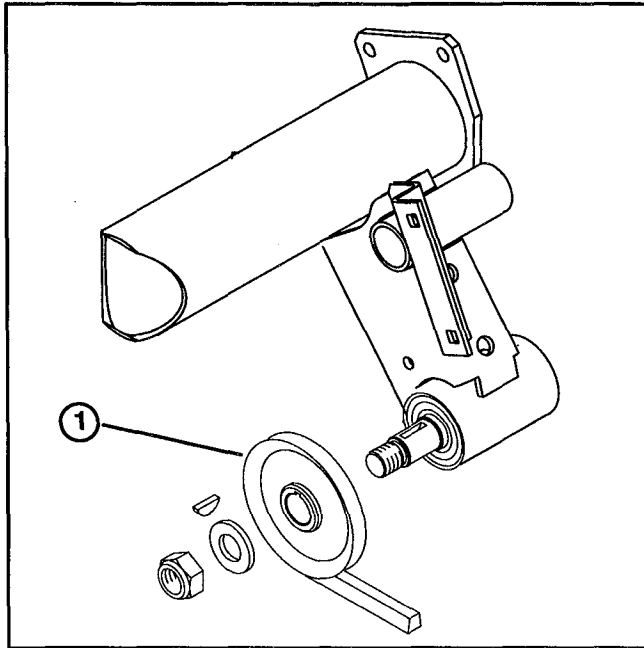

Figure 9
41. Remove belt from jackshaft pulley (Fig. 9).
42. Remove nut and washer securing hydraulic pump pulley to jackshaft and remove pulley (Fig. 9).